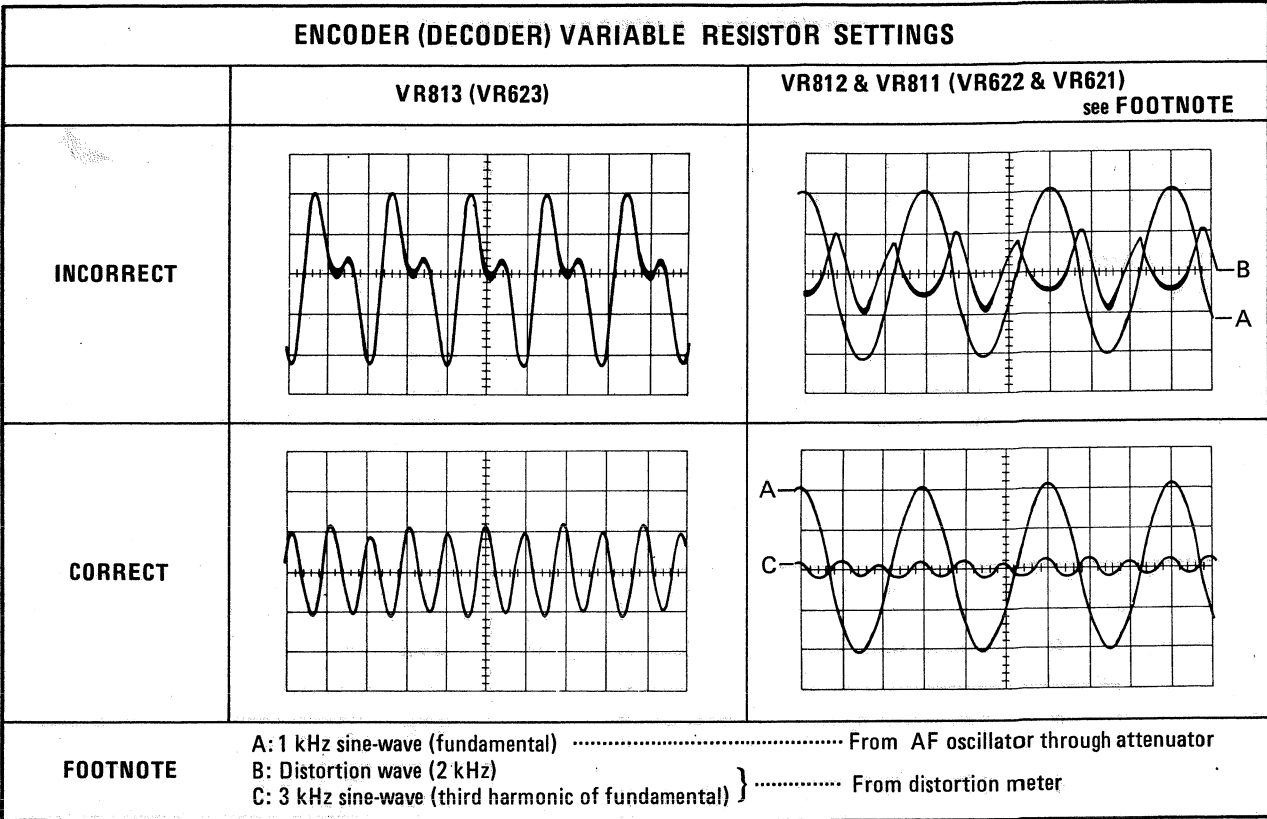

Fig. 3-8
5. Adjust VR813 (RMS SYM) to obtain a clean 200 Hz sine-wave on the oscilloscope so that the reading on the AC voltmeter indicates minimum value ($0.41 \text{ mV} \pm 1 \text{ dB}$). See Fig. 3-8.
9. Repeat above steps 7 and 8 until clean 3 kHz sine-wave is obtained in both procedures. As a result, distortion level shows the same level in both procedures and it should be minimum. See Fig. 3-8.
10. After whole procedure in this paragraph is completed, adjustment by VR814 may be done for the encoder level (item 25 in 3-4).